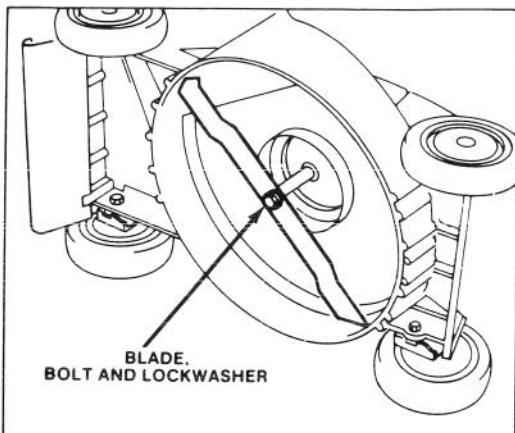

Figure 13
2. Tip mower on its left side (Fig. 13).
3. Tip mower on its left side (Fig. 13). Avoid rotating blade. Starting problems may result.
5. REMOVING BLADE — Grasp end of blade using a rag or thickly padded glove. Remove blade bolt, lock washer and blade (Fig. 13).